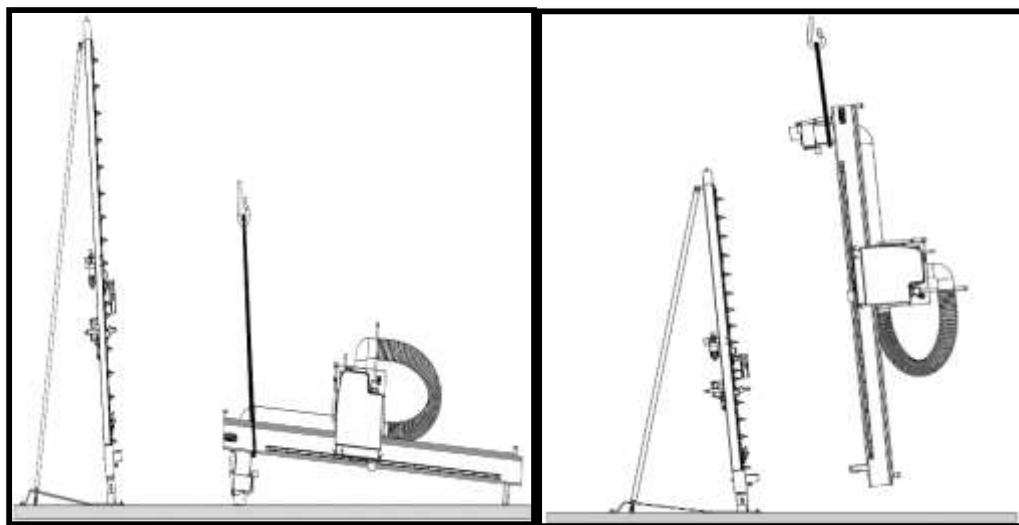

Figure 2.6 – gantry mounting type
- 2- Lift the cut block with the aid of a rope as shown in “Figure 2.6. Place them on the chassis. NOTE: After placing the cutting block on the frame with the aid of rope, remove the rope after fixing the trolleys with the trolleys and the trolleys to the cutting block.